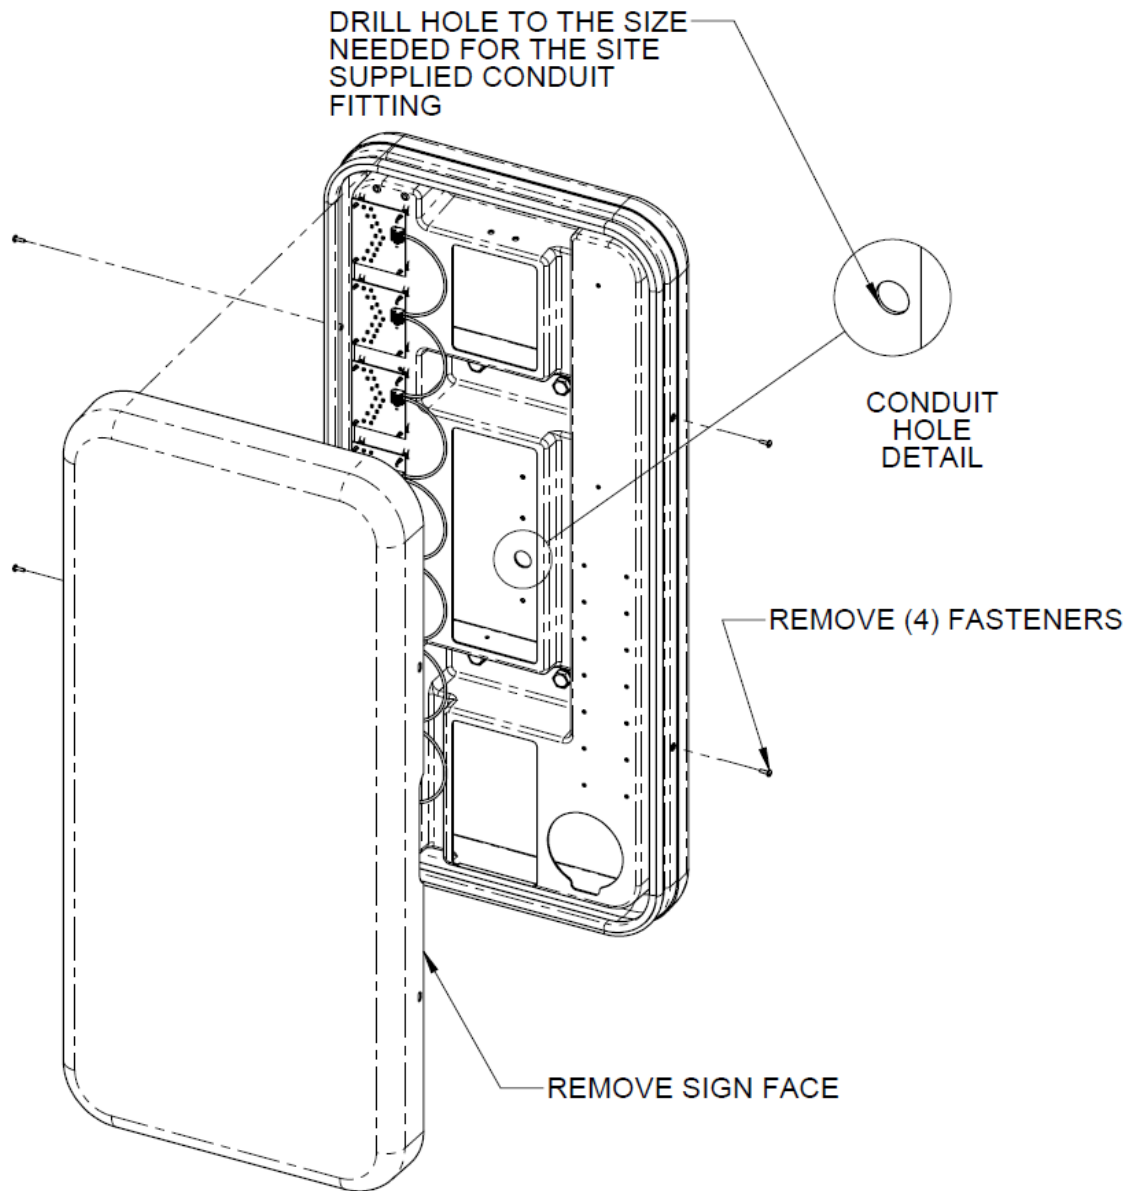
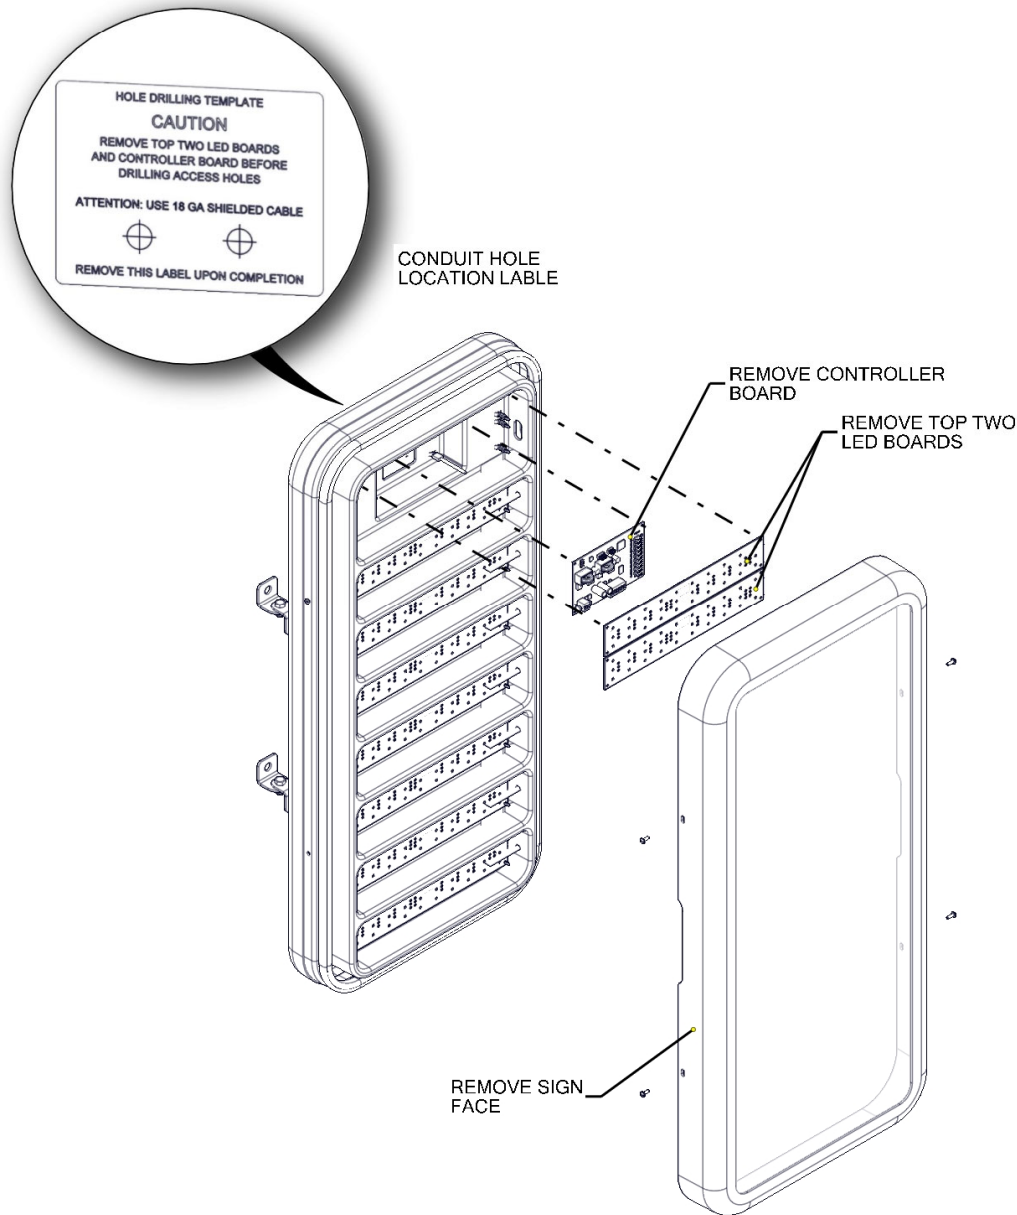

Figure 172 -Service Confirmation Sign Preparation for Installation, Basic or Deluxe
Figure 173 – Advanced Service Confirmation Sign Preparation for Installation
- **Advanced Service Confirmation Sign Only** - Remove top two LED boards and controller board before drilling access holes. Figure 173.
- The back cover of the sign enclosure has center marks to aid in the drilling process. Drill one hole to the size needed for the site supplied conduit connector. See the detail view in Figure 172 or Figure 173.